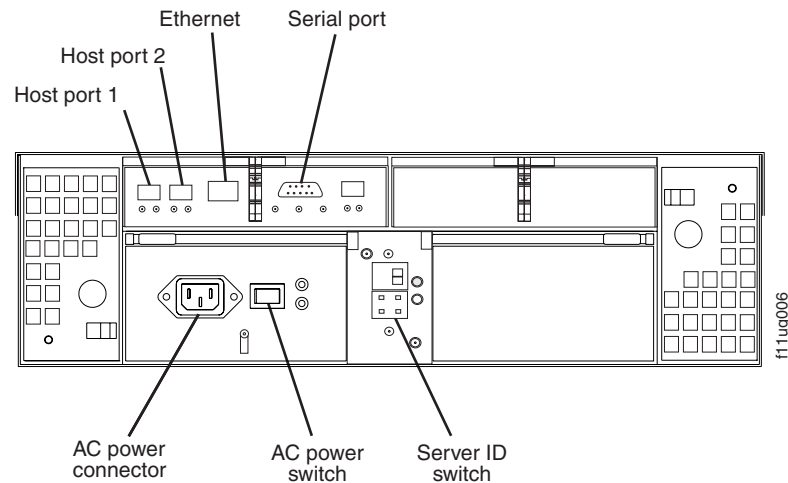

Figure 50. Location of host cables (single-controller storage subsystem)
2. Connect the host-system cables to the RAID controller or to switches. Figure 50 shows the location on the RAID controllers where the host-system cables connect.